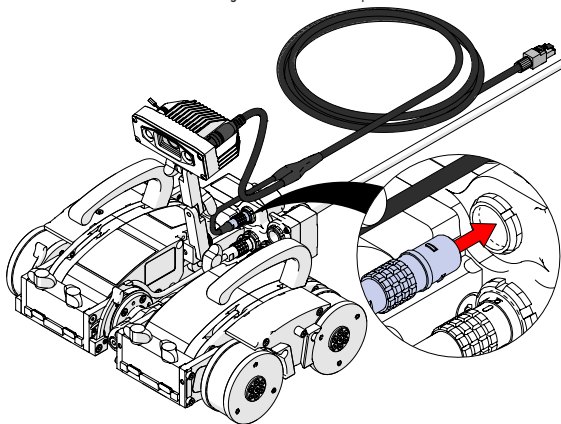

Fig. 26 - Connect camera power connector to crawler's auxiliary connector
3. Connect the crawler powered camera cable's power to the crawler's auxiliary connector (Fig. 26).